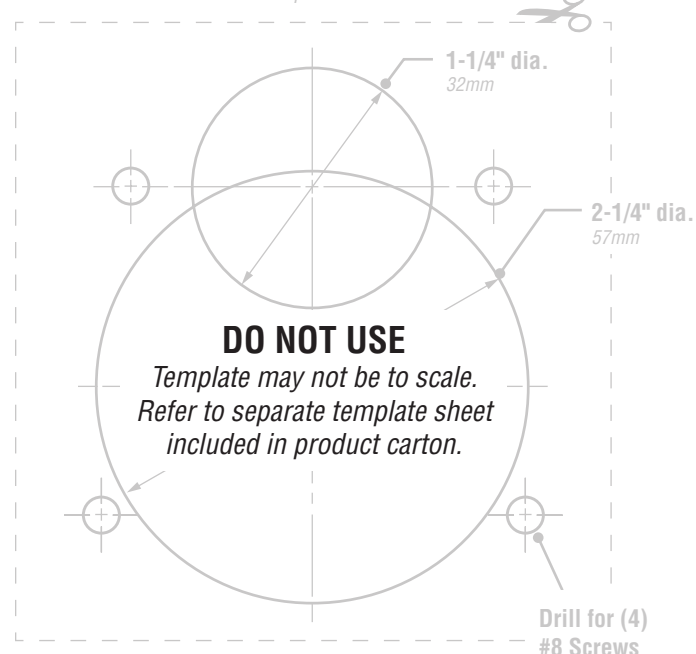

FIGURE 2
4. "Dry Fit" the Deck Fill neck into hole. (Figure 2)
10. Attach and clamp 1-1/2" (38mm) fill hose using two (2) clamps. Use corrosion-resistant metallic clamps with nominal band widths of at least 1/2" (12mm). The first clamp should be 1/4" (6mm) from the end of the hose. The second hose clamp should be located above the barb leaving a small gap (at least 1/4") between the clamps. Torque to 36 +/- 4 in-lb.
11. Attach and clamp 5/8" (16mm) maximum vent hose using at least one (1) corrosion-resistant metallic clamp with nominal band width of at least 5/16" (8mm). Torque hose clamp to 36 +/- 4 in-lb.
12. Attach and clamp 5/8" vent hose using one (1) clamp. Torque hose clamp to 36 +/- 4 in-lb. Ensure 5/8" vent hose connects with 5/8" port on 99FL Series vent valves.